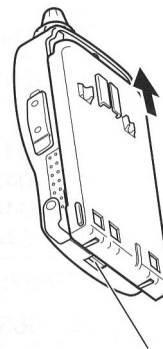

Figure 4.3
2. Slide the battery pack long the back of the Handheld Radio Remote until the release latch on the base of the Handheld Radio remote locks the battery pack in place (Figure 4.3).